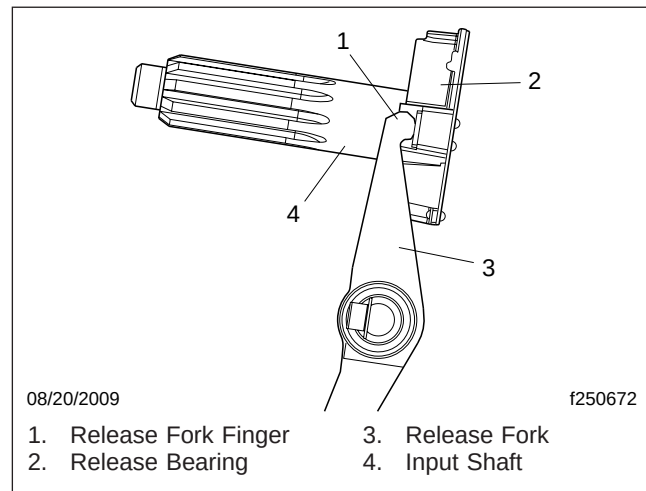

Fig. 12, Release Fork
3. Check the flywheel housing for wear caused by the bell housing pilot (projecting lip of the bell housing). The correct dimension is 1/8-inch (3.2-mm). Wear is most likely to appear between the 3 o'clock and 8 o'clock positions. See Fig. 12.
13. Lubricate the release fork fingers. See **Fig. 12**.